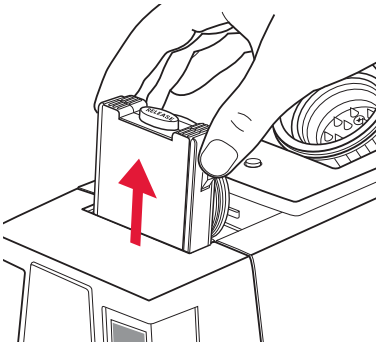

Figure 8
11. Lift the pressure wall out of the machine. See figure 8